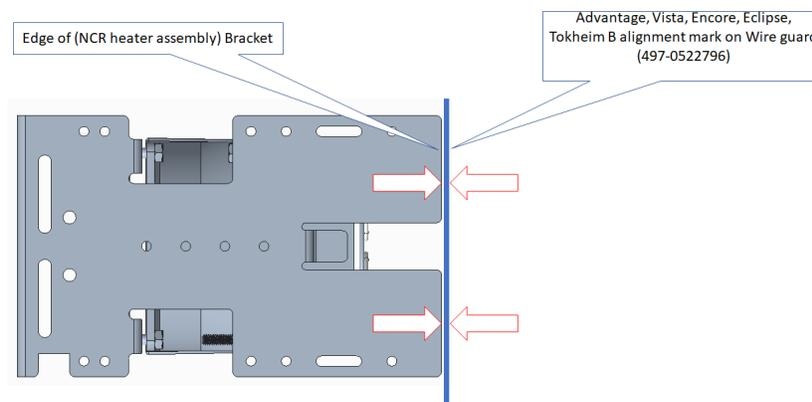
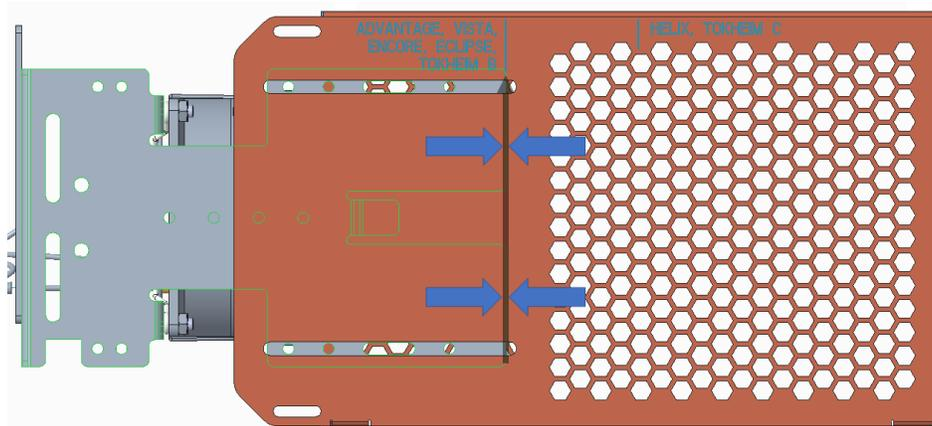

Figure 70
Figure 71
- 22) Slide the wire guard (497-0522796) around the NCR heater assembly so that the edge of the bracket aligns with the Advantage, Vista, Encore, Eclipse, Tokheim B alignment mark as shown in Figure 70 and Figure 71.